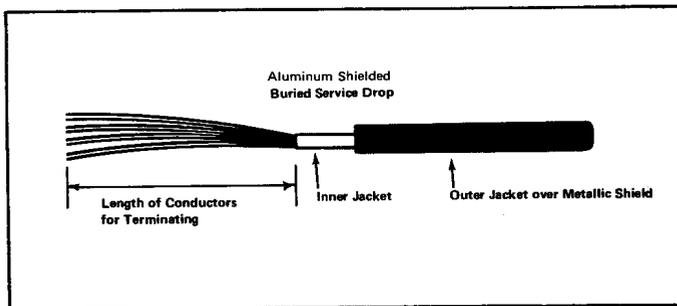

FIGURE 22.
2.04 Change Figures 22, 24, 25 and 26 as shown in Figures 1 and 2 of this addendum.